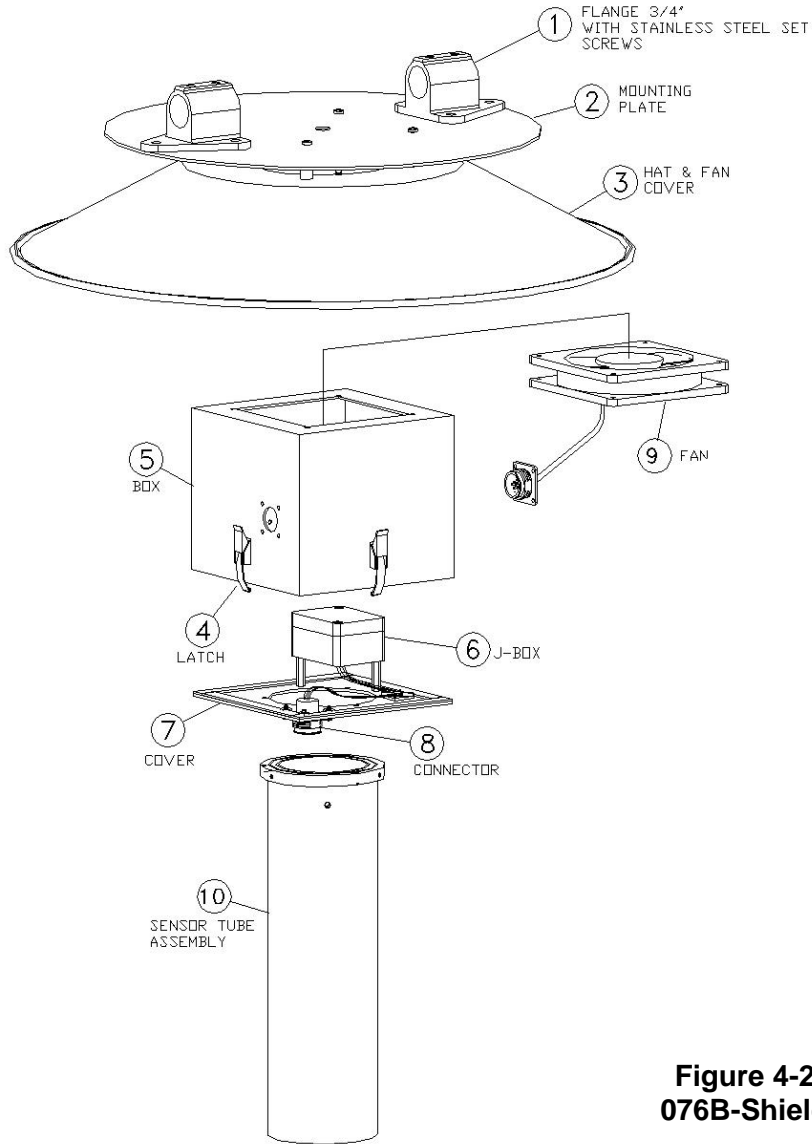

Figure 4-2
- A. Electronic repair of the Motor Aspirated Radiation Shield is limited to replacement of the aspirator motor. If mechanical spare parts are worn or damaged, please refer to Figure 4-2 and Table 4-1 for a list of replacement parts.